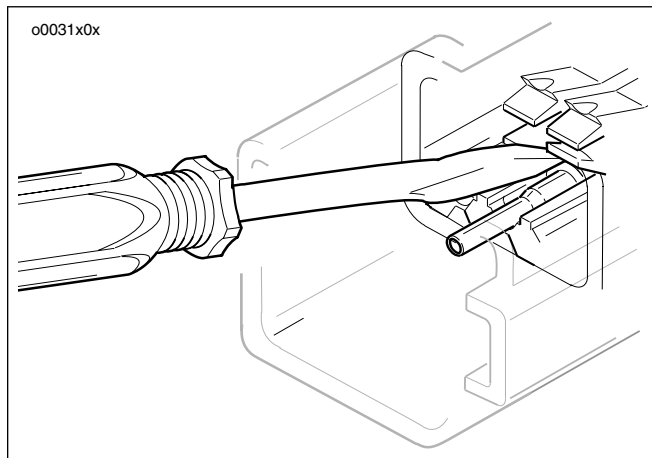

Figure 2-15. Internal Deutsch Terminal Latches
- b. See Figure 2-15. Depress internal terminal latches and pull socket terminals out of the wire seal.